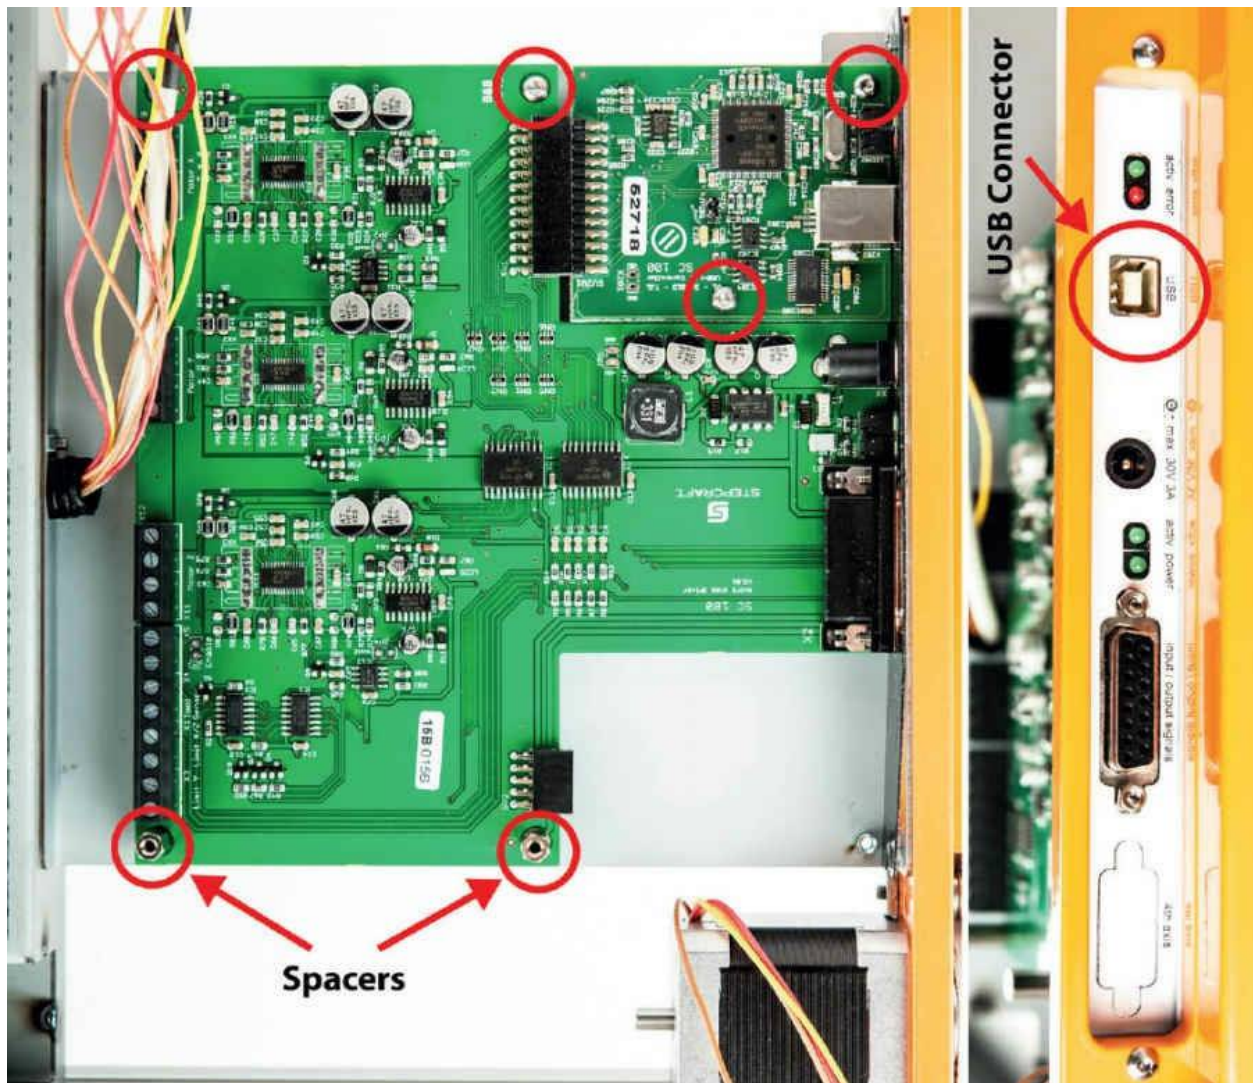

Fig. 2.83 *The mounted control unit*
5. Insert the appropriate connector cover (in this case, the USB version) and mount the control unit onto the spacers on the holder (see figure 2.83). Make sure the connectors on the control unit match up with the holes in the connector cover and that the holes at both ends of the cover are lined up with the threads in the holder.
When inserting cables into the black connector block (on the left in figure 2.83), make sure that you only insert the stripped part of each wire. If you accidentally insert part of the insulation, the machine will either not work at all or will have a faulty contact.